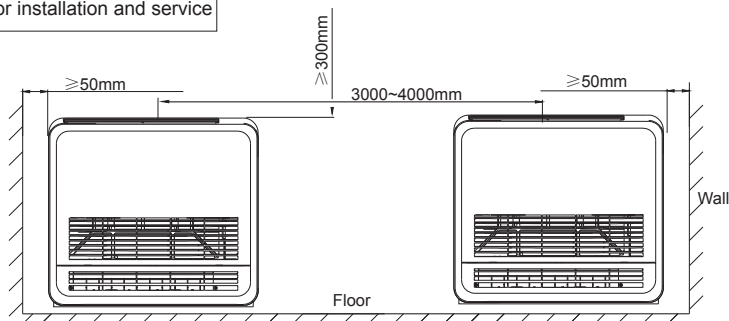

Fig. 4.1. Space for installation and service
- Install the indoor unit with a proper clearance around it for operation and maintenance working space, as shown in Fig. 4.1.